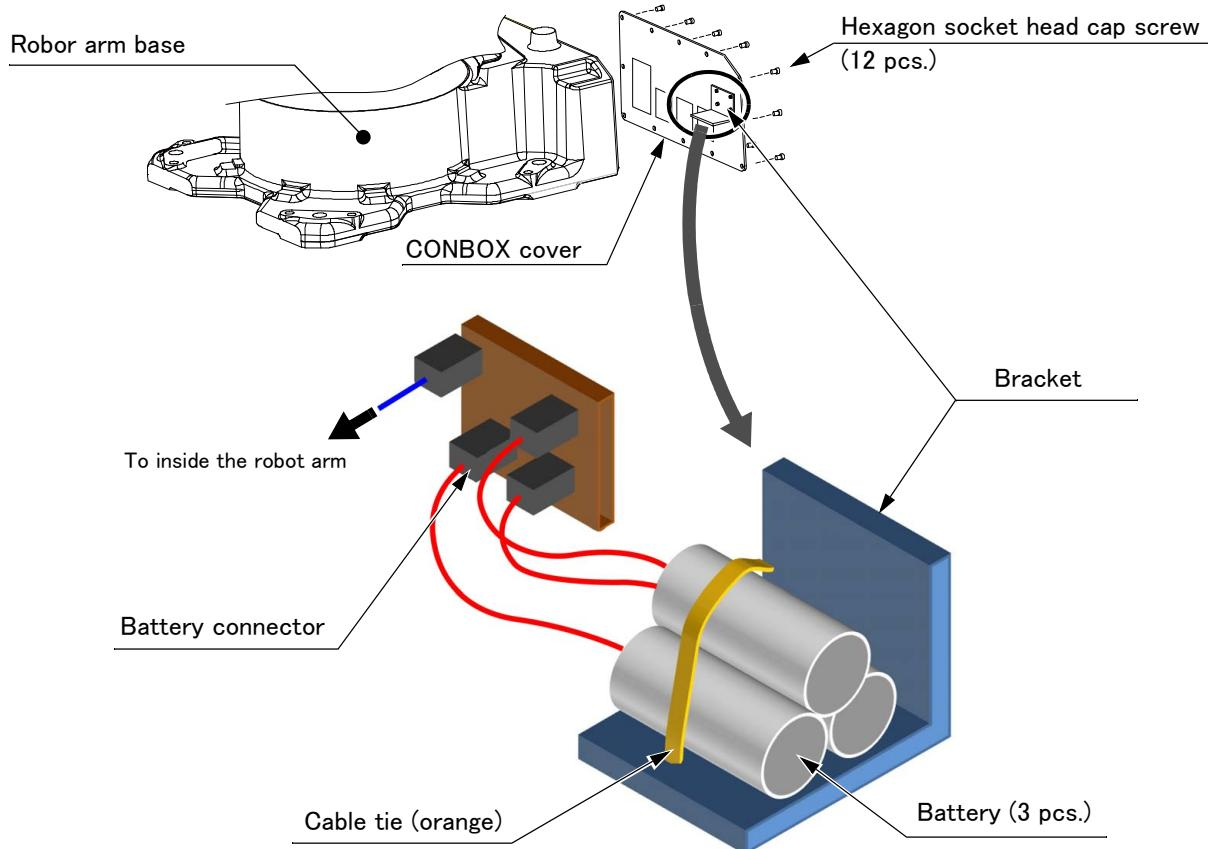

Fig.5-23 : Replacing the battery (RV-35F/50F/70F series)
- 6) Tie up the batteries with the cable tie removed in 3) and fix it as shown in Fig. 5-23.